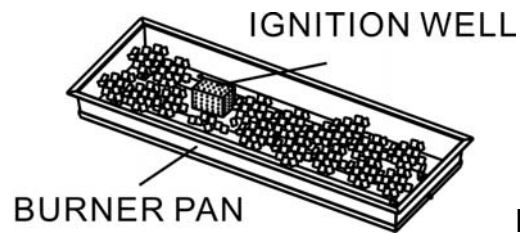

Figure 5
4. Pour ALL of the provided media (fire ice) into the burner pan. The burner MUST be completely covered to ensure the appliance functions properly and safely. Remove any fire ice on top of the ignition well. See figure 5.